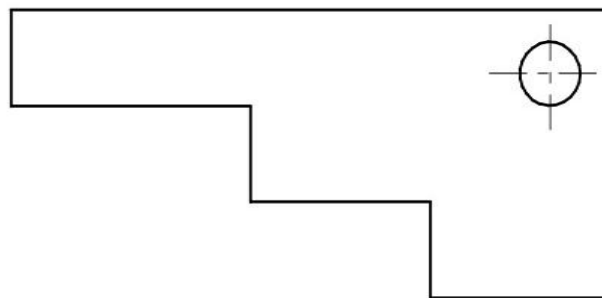

Fig. 4
- Copy Fig. 4 to 2:1 Scale and dimension it using Aligned system with Chain dimensioning.